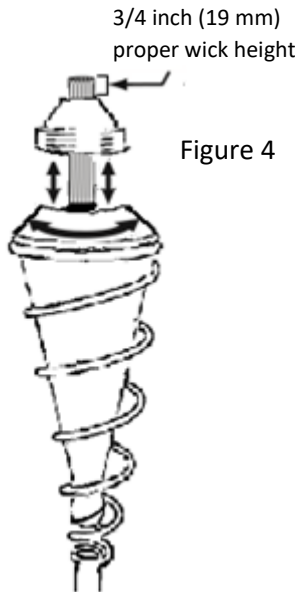

Figure 4
4. Reattach the metal flame guard to the fuel canister (Figure 4).